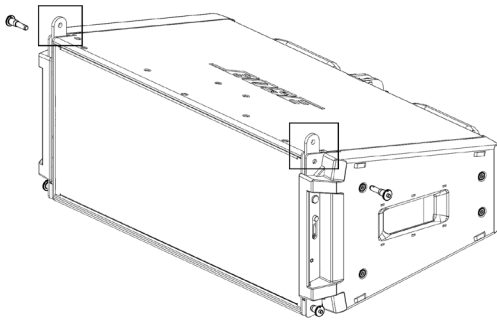

Fig. 1. Raise links on module
7. Raise the links on module: Remove the pins, slide the link switch from the STOW position to the LINK position, and replace the pins. See Fig. 1.